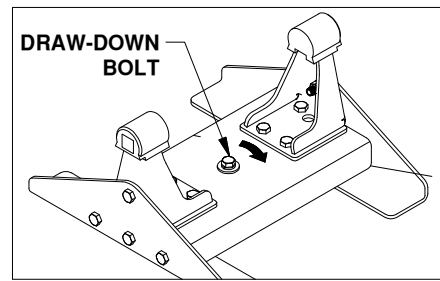

Figure D4: View of Companion base.
6. **Secure base.** Tighten the 1/2" x 3-1/2" draw-down bolt to **60 ft-lbs**, see Figure D4.